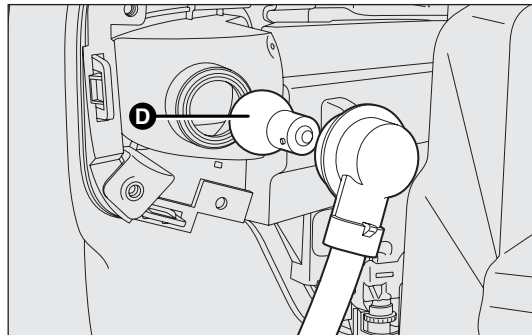

fig. 142
- ❑ remove the bulb D-fig. 142 by pushing it in gently and turning anticlockwise ("bayonet" fitting), then replace it;